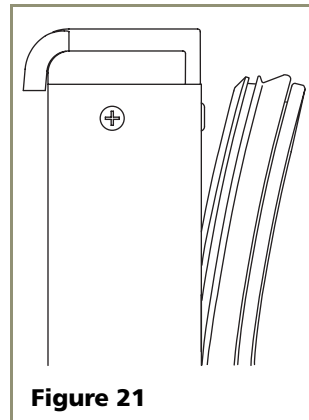

Figure 21
3. Pull door gasket out of the groove (top edge of door only). Start in the middle and pull outward, moving toward the edge (see **Figure 21**). This may take some force.